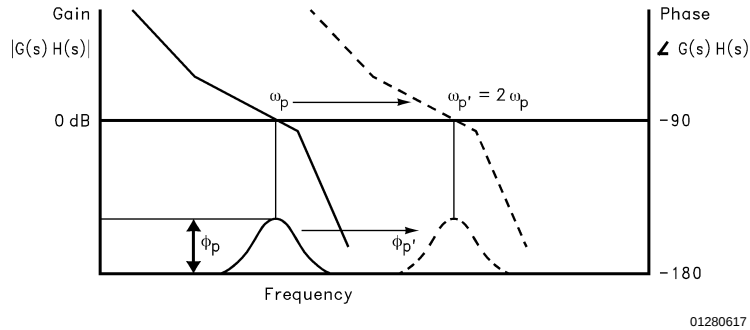

FIGURE 4. Open Loop Response Bode Plot
A plot of the magnitude and phase of $G(s)H(s)$ for a stable loop, is shown in *Figure 4* with a solid trace. The parameter ϕ_p shows the amount of phase margin that exists at the point the gain drops below zero (the cutoff frequency ω_p of the loop). In a critically damped system, the amount of phase margin would be approximately 45 degrees.
If we were now to redefine the cut off frequency, ω_p' , as double the frequency which gave us our original loop bandwidth, ω_p , the loop response time would be approximately halved. Because the filter attenuation at the comparison frequency also diminishes, the spurs would have increased by approximately 6 dB. In the proposed Fastlock scheme, the higher spur levels and wider loop filter conditions would exist only during the initial lock-on phase—just long enough to reap the benefits of locking faster. The objective would be to open up the loop bandwidth but not introduce any additional complications or compromises related to our original design criteria. We would ideally like to momentarily shift the curve of *Figure 4* over to a different cutoff frequency, illustrated by the dotted line, without affecting the relative open loop gain and phase relationships. To maintain the same gain/phase relationship at twice the original cutoff frequency, other terms in the gain and phase *Equation (4)* and *Equation (5)* will have to compensate by the corresponding "1/w" or "1/w²" factor. Examination of equations *Equations (2), (3)* and *Equation (5)* indicates the damping resistor variable $R2$ could be chosen to compensate the "w" terms for the phase